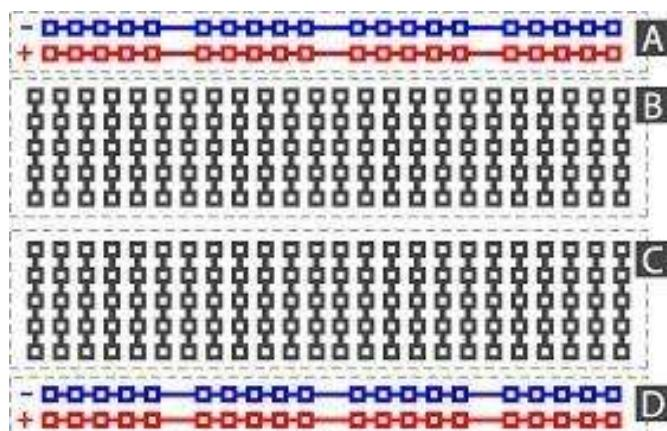

Fig. 2. Internal connections of a breadboard
- The internal connection of the breadboard is shown Fig. 2.
- From Fig. 2, A and D sections are not connected internally. In the same way B and C sections are also not connected internally.